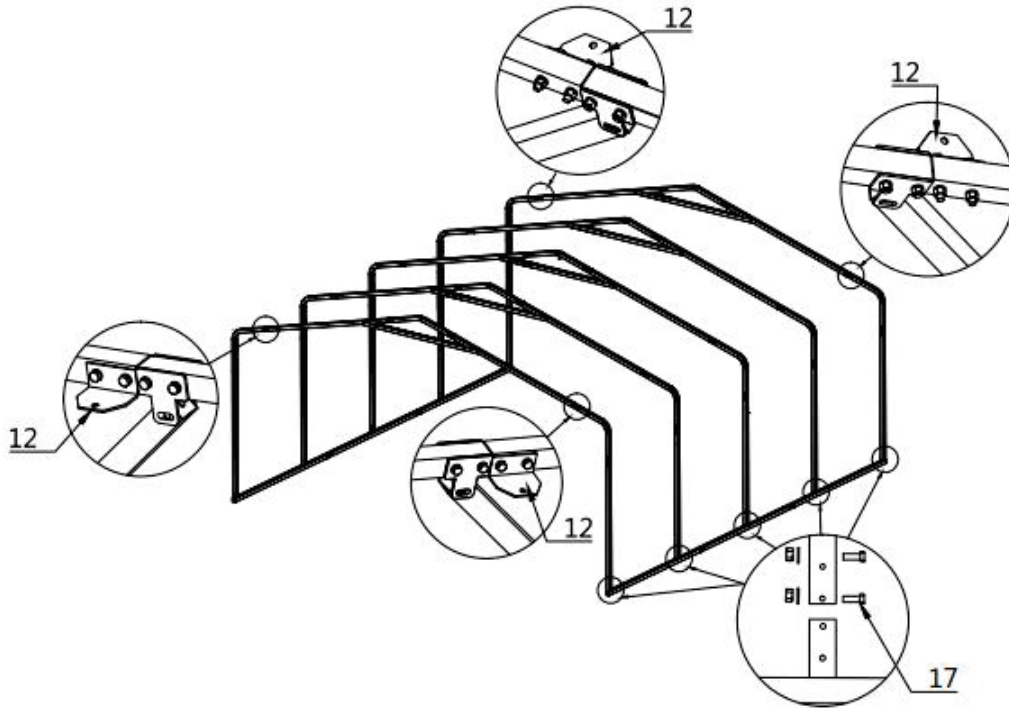

Figure 5
- The front and rear trusses are installed with one side of (#12) Steel cable mounting plate facing outwards. (refer to Figure 5)